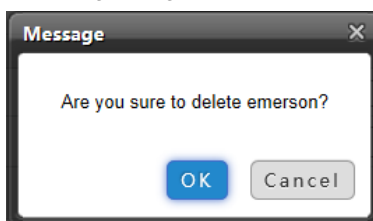

Figure 3-51 Confirming dialog box
2. Click the **Delete** button to pop up the confirming dialog box, as shown in Figure 3-51.